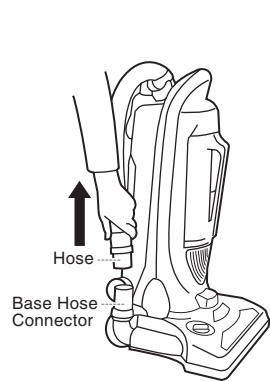

Fig. 11
- Remove hose from base hose connector. (Fig. 11)